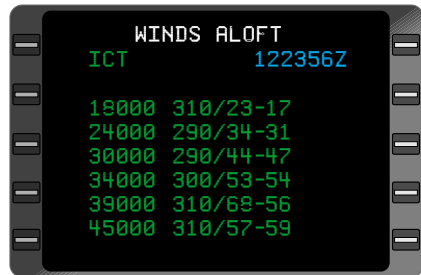

Figure 7-139
10. Access the **WINDS ALOFT** Data Pages (Figure 7-139) by selecting an identifier on the **WINDS ALOFT** menu Page.